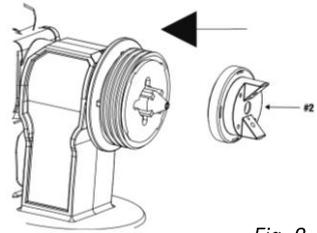

Fig. 2
2. Place the air cap (#2) on the nozzle (Fig. 2).